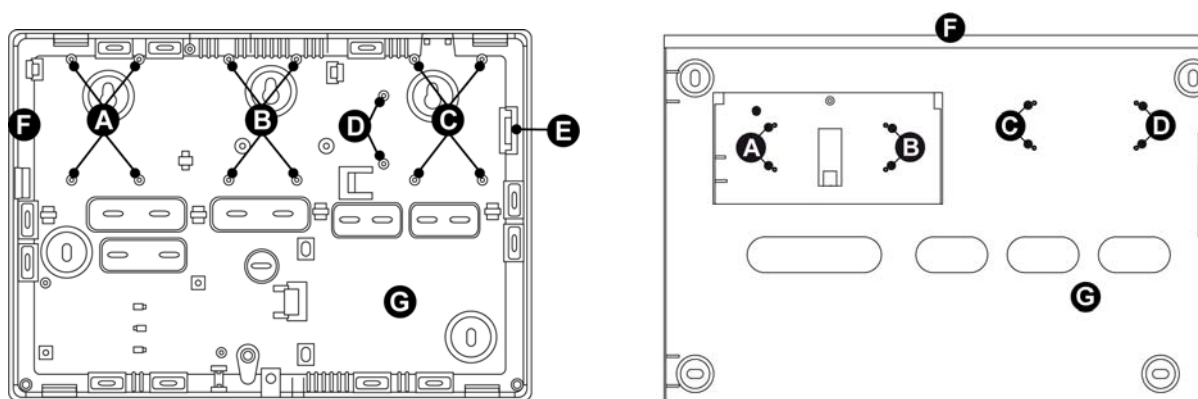

Figure 10 – Fixing points
- Put the provided GSM antenna in its housing (figure 10, F) of the control panel base.